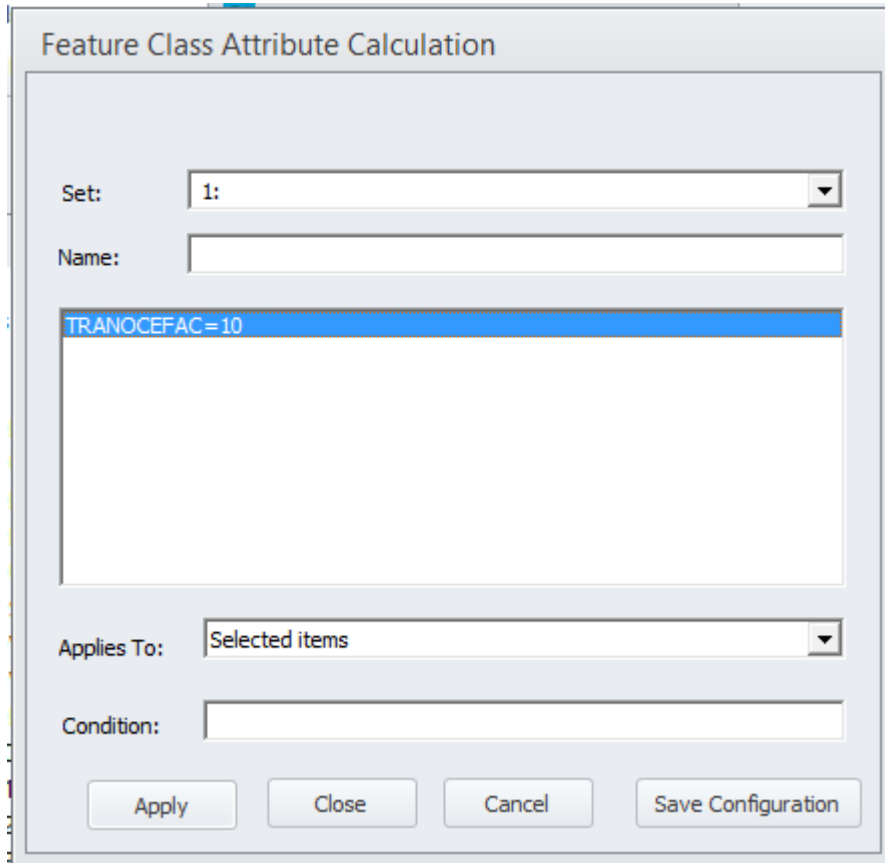

Figure 78 The Feature Class Attribute Calculation window
- 6) Select Node -> Compute and type in the equations by right-clicking in the largest field (in the middle) and select "Insert" (e.g., TRANOCEFAC=10, see Figure 78. To see the available parameters, right-click in the blank field in the Insert Equation window) and select which items the edits should apply to (selected). Click "Apply". When finished, click "Close"